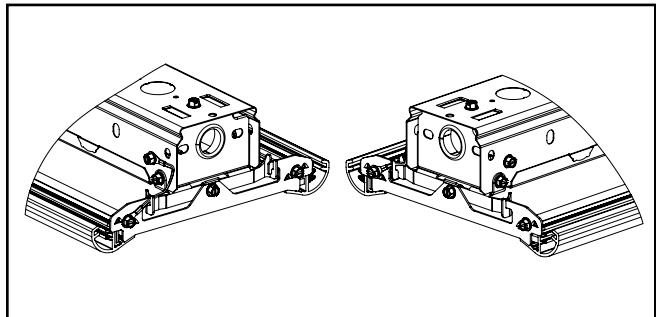

Figure 3.5
- Make sure the tabs of the waveguide assembly are securely inside of the grooves of the channel hinge bracket. (Figure 3.5)